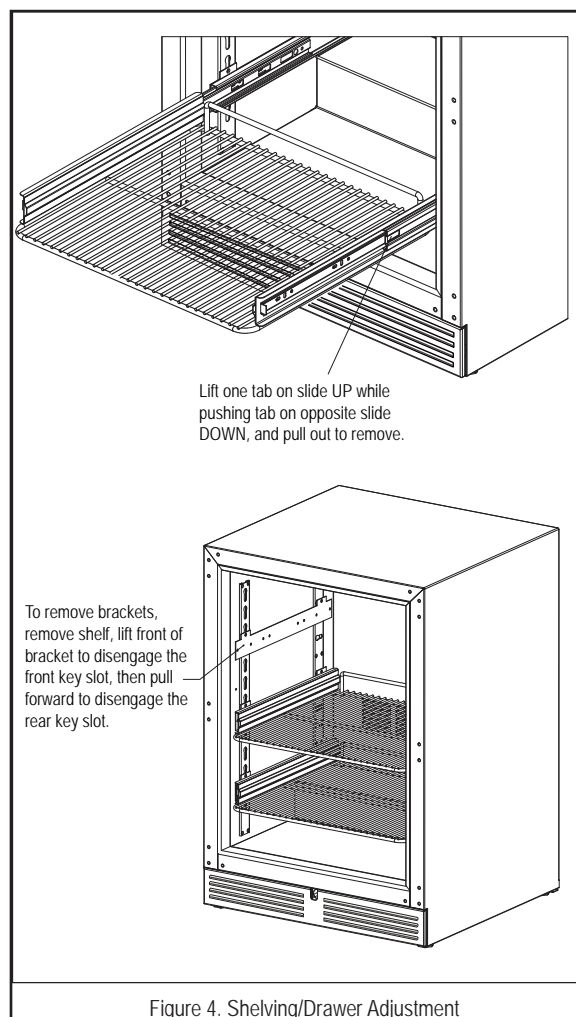

Figure 4. Shelving/Drawer Adjustment
1. Pull the shelf/drawer out to its furthest position. Locate the tabs in the middle of both extenders. Lift one tab up while pushing the opposite tab down, and pull shelf/drawer out (Figure 4).